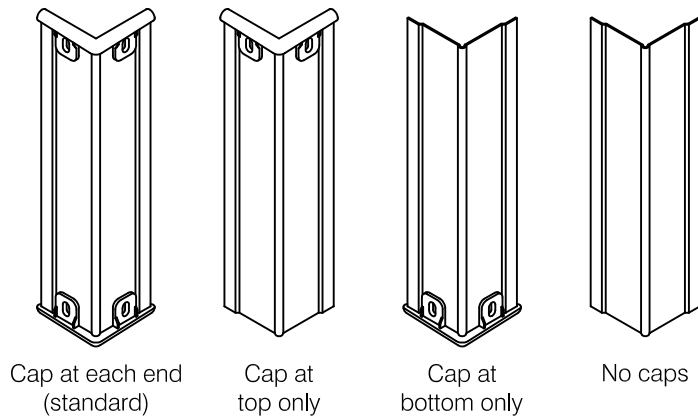

fig 1
Step 1: This series of corner guards is available with molded closure caps. While the installation of a cap at each end is considered standard these corner guards may also be installed with no caps or with a cap at either end, see **fig 1**.